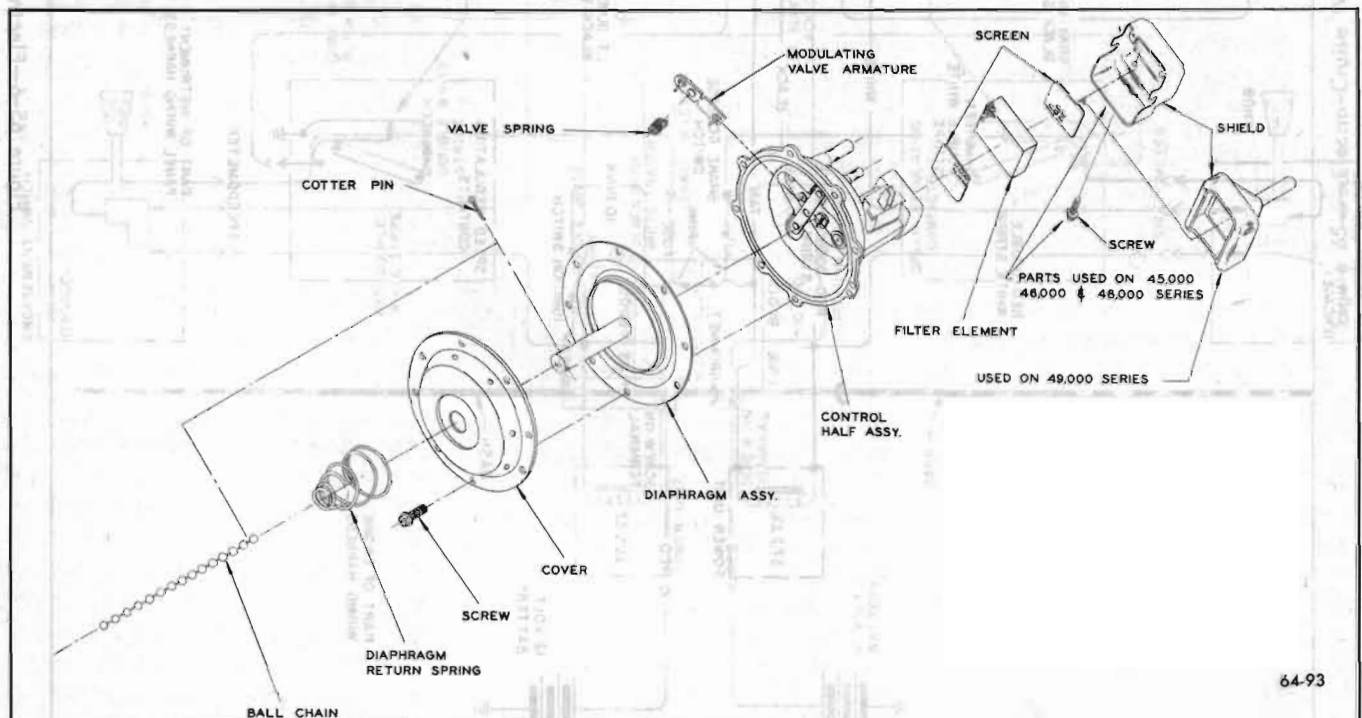

Figure 65-7—Exploded View of Power Unit
1. Disconnect forward end of bead chain by snapping it from ball. See Figure 65-7.